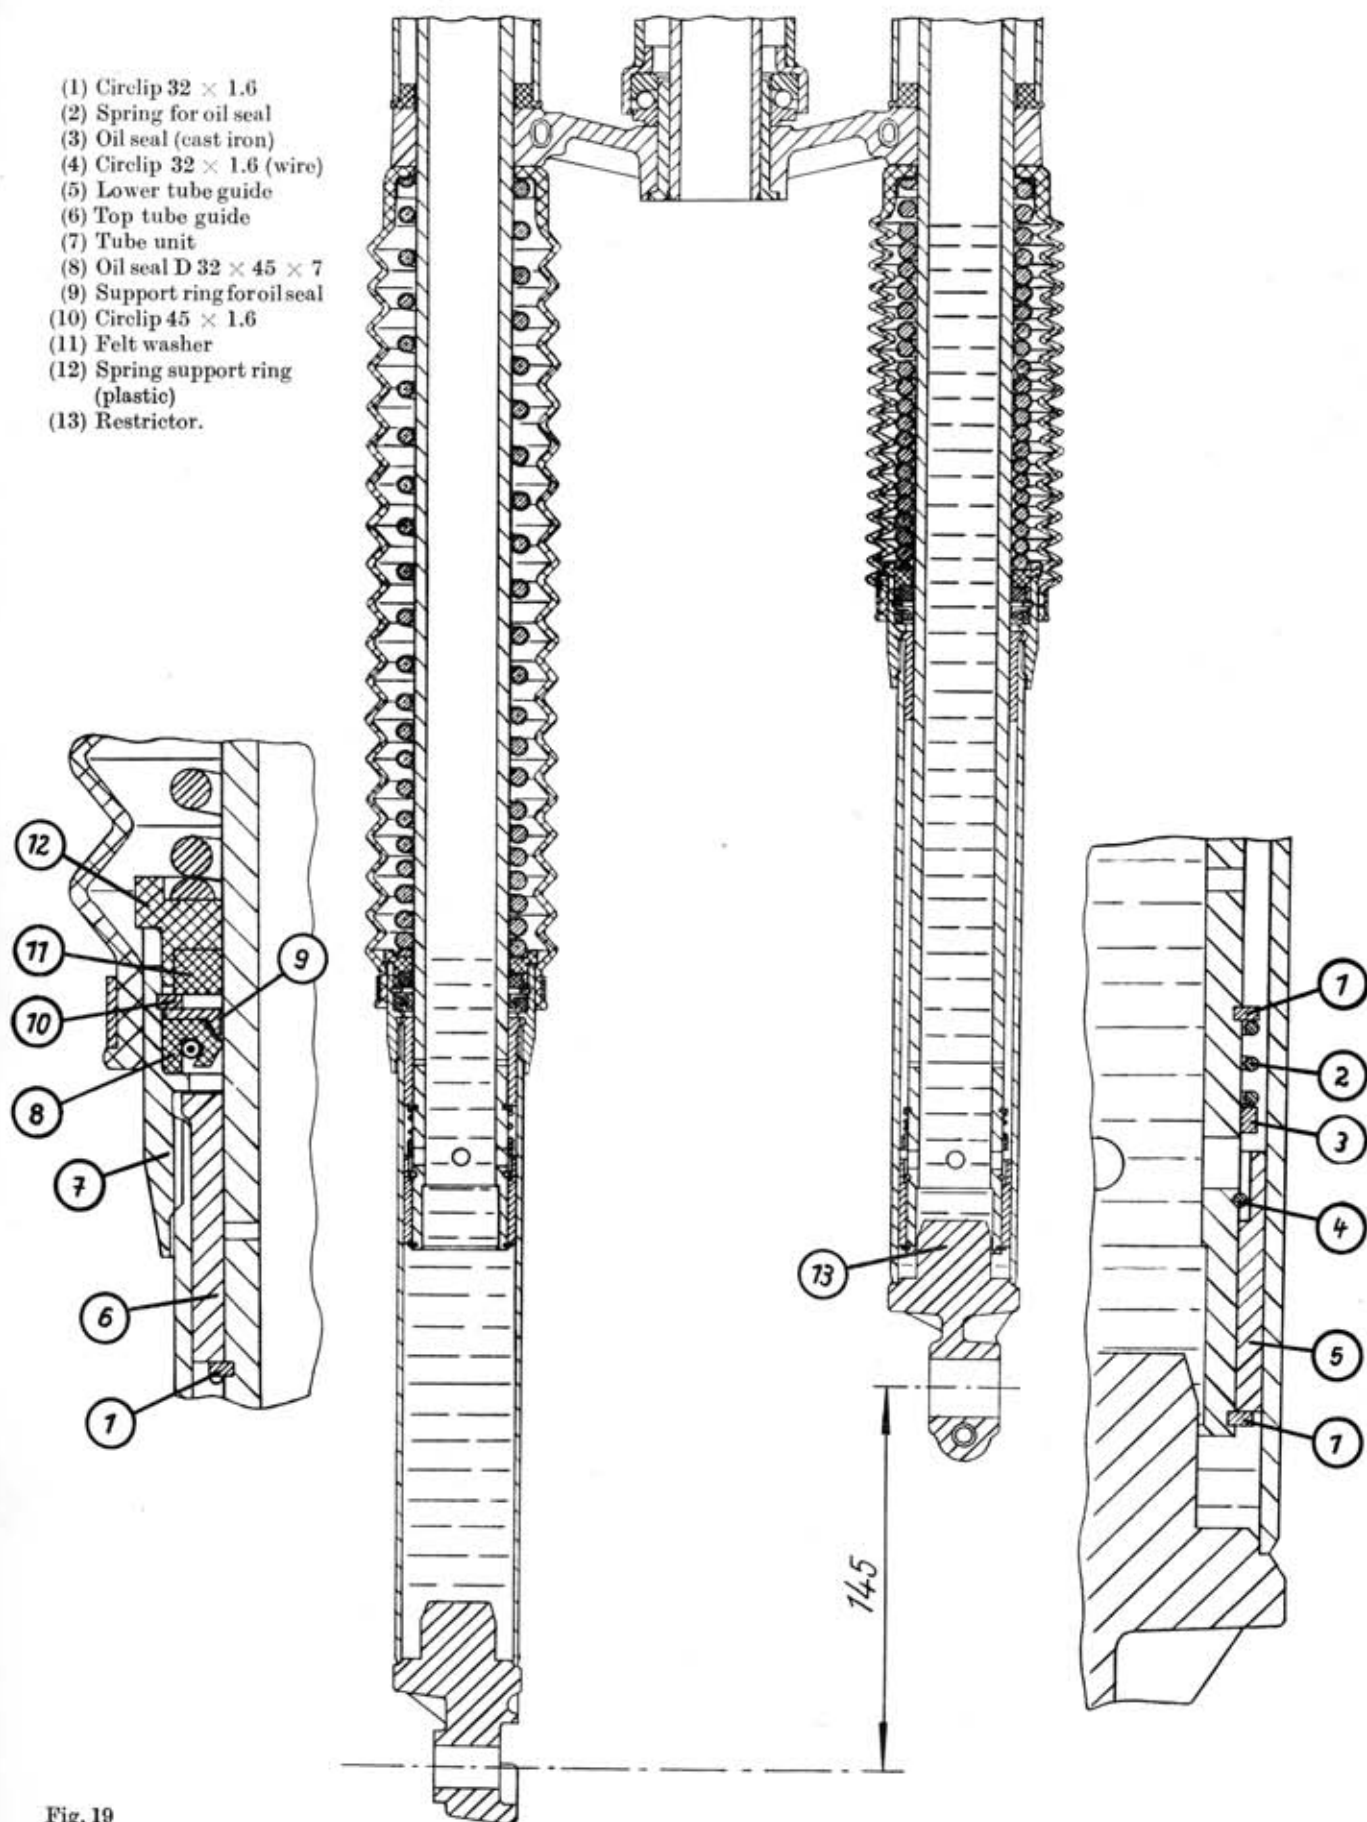

Fig. 19
The axial play of the stanchions must not exceed 0.05 mm, in putting them between the tips of a lathe or a similar device. The lower tube guide (1) and the parts belonging to it, should be assembled as shown in Fig. 19, (1) to (5).
Then assemble in this way: Felt ring, spring support ring, spring with rubber cover and spring cap — see Fig. 19.